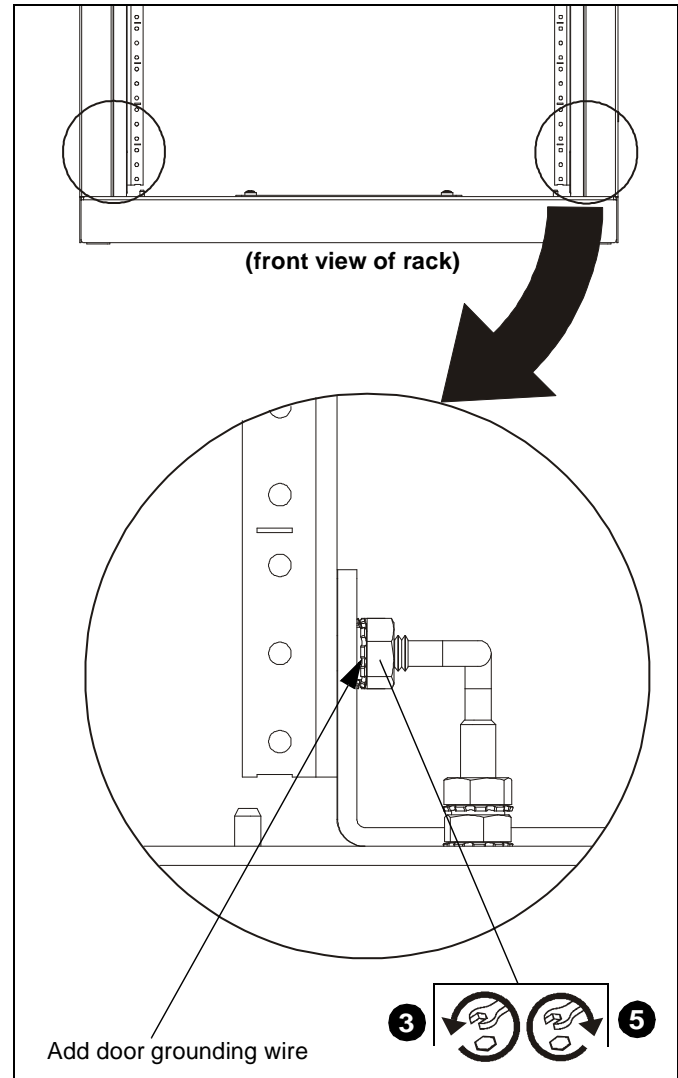

Figure 6
3. Remove and save nut from the grounding lug on side rail. (See Figure 6)
4. Attach grounding wire from door to the grounding lug. (See Figure 6)
5. Replace and tighten nut onto grounding lug. (See Figure 6)